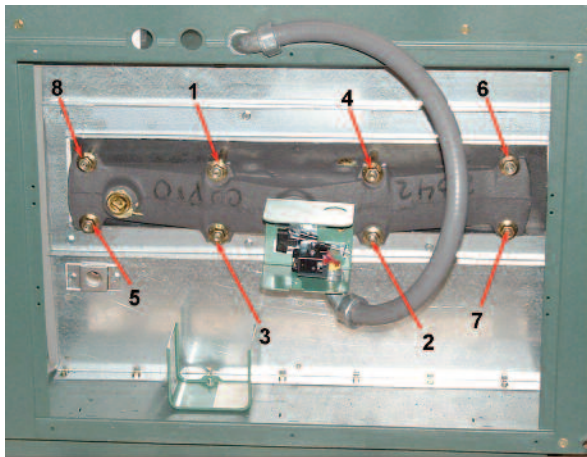

Fig. 8: Torque Sequence
12. Slowly tighten the flange nuts, starting from the center nut (number 1) in Fig. 8 and working sequentially around the header as indicated. Torque all nuts to 25 ft/lb. **DO NOT OVER-TIGHTEN.**